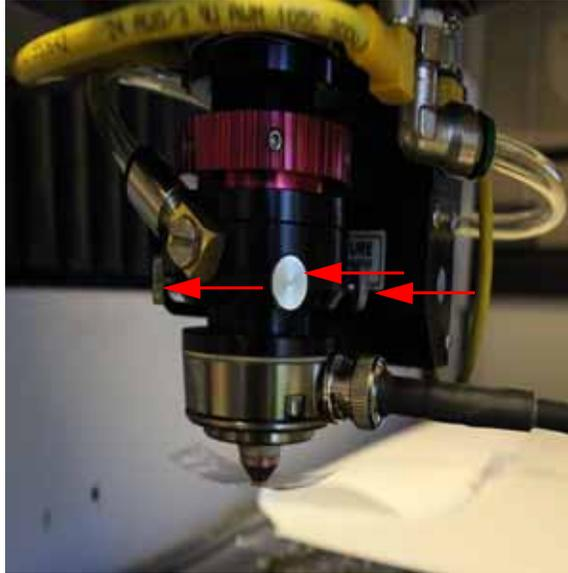

Figure 7-21. Nozzle Centering Adjustment Screws
- Adjust the nozzle using the 4 screws on the cutting head (see Figure 7-21).